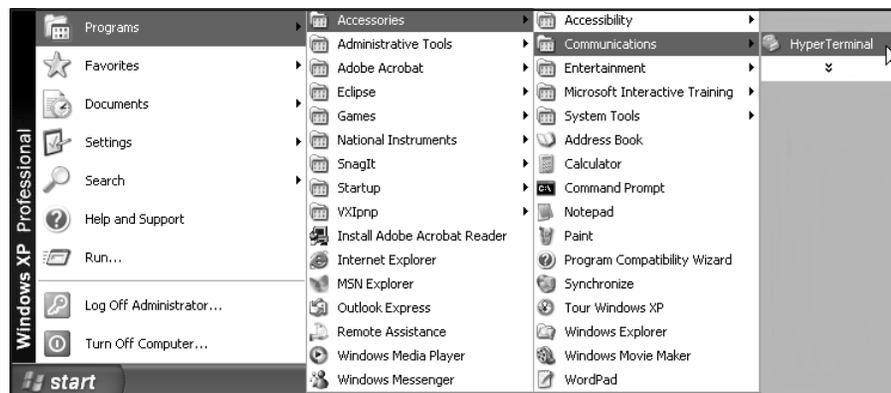

Figure 5 Starting HyperTerminal
1. HyperTerminal is normally found under the **Start | Programs | Accessories | Communications** menu as shown in Figure 5.